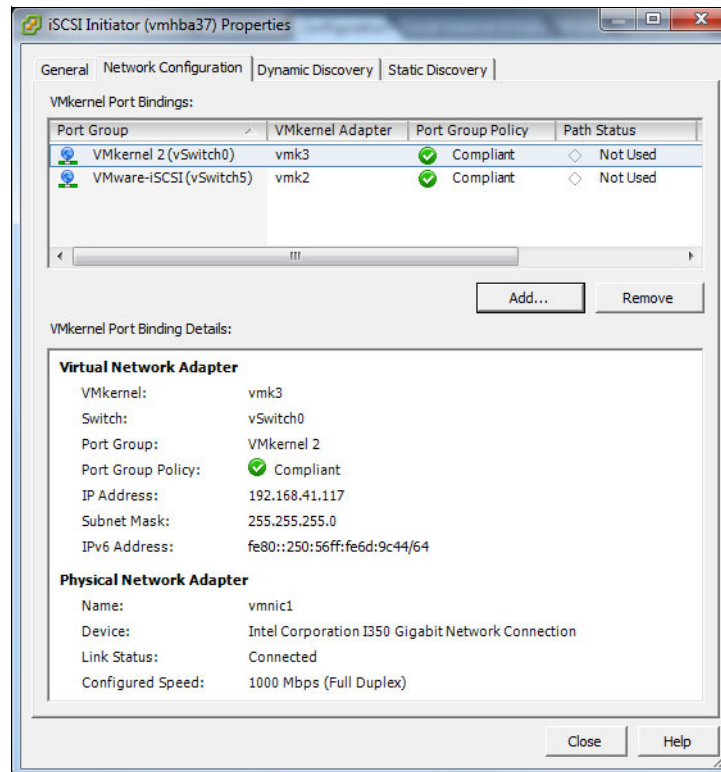

Figure 7-51 Network Configuration
8. When all the VMkernel adapters are bound to the iSCSI software adapters, the adapters are shown, as shown in Figure 7-51.